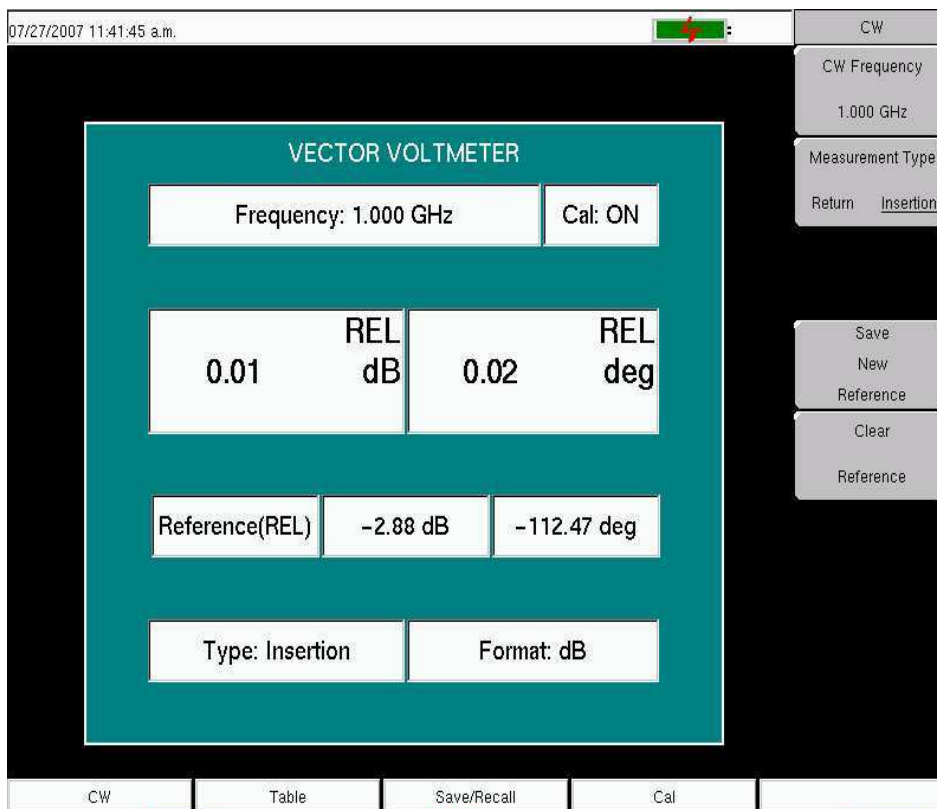

Figure 8-5. Continuous Wave Menu with Relative Measurements
4. As shown in Figure 8-5, the Vector Voltmeter saves the current measurement in a new reference window and converts the main measurement window to display the difference between the current measurement and the saved reference. In other words, saving a reference will normalize the results to the current measurement. When relative measurements are displayed, REL is indicated in the main measurement window.